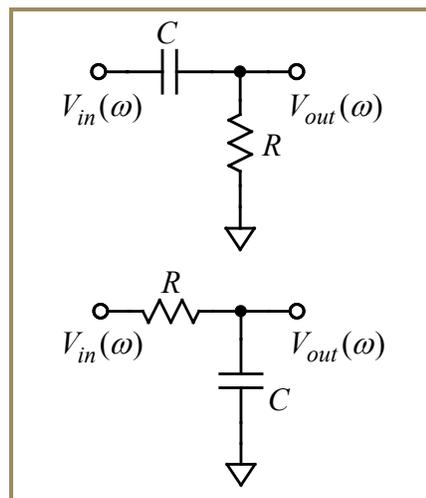

Figure 2-6: Simple RC high-pass (top) and low-pass (bottom) filters, which are just a voltage divider circuits.
In the last section we considered the frequency dependence of the impedance phasor $Z(\omega)$ of an RC combination. Now we consider how a network's *gain* (or *transfer function*) may also be represented using a phasor, $G(\omega)$, called the *frequency response* of the network. We start with particularly simple but useful circuits, the *RC filters* shown in Figure 2-6. Clearly, these circuits are just voltage dividers with a capacitor replacing one of the resistors. Since the capacitor's impedance is inversely proportional to frequency (equation 2.10), we would expect that for the high-pass filter (top circuit) V_{out} will approach V_{in} at high frequencies but will approach 0 at low frequencies. The opposite would be the case for the low-pass filter (bottom circuit). Using the voltage divider equation gives:
As an important example of the use of the simple high-pass filter, Figure 2-6, consider this problem: a tiny time-varying signal must be amplified by at least a factor of 100 to be accurately measured, but this signal is a continual, small fluctuation of an otherwise constant (DC) voltage of about 5V. Obviously, amplifying the DC component by 100 as well would result in an output of 500V, which won't work. Thus we need to amplify the AC (fluctuating) signal while blocking the DC component. The solution to our problem is easy: just add a filter to the input of a noninverting op-amp amplifier circuit: